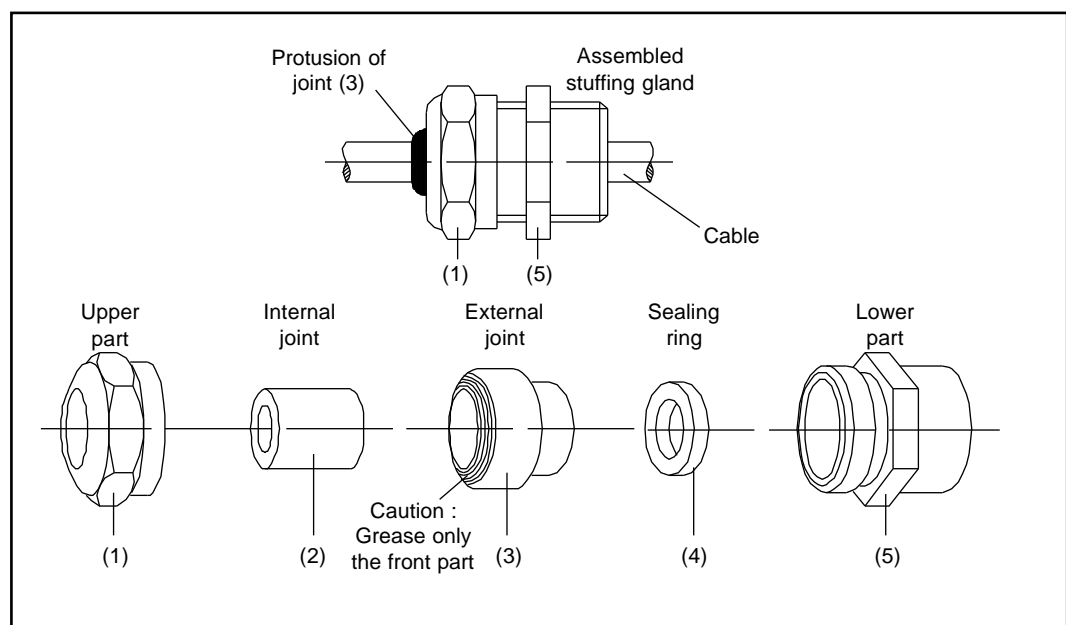

Fig. 4-4 : Stuffing gland (overall view and exploded view).
- Pass the cables into the stuffing glands located on the load monitoring unit housing, proceeding as follows (see Figure 4-4) :
- Unscrew element (1) anti-clockwise. Element (5) should not be removed from the housing.
- Takes out joints (2) and (3) from element (1) (elements (2) and (3) allow the stuffing gland to be adapted to different diameters of cable). Element (2) can be removed from element (3) by simply pushing outwards.
- Pass the cable across elements (1), (2) (if used), (3), (4) and (5).
- Reassemble the elements of the stuffing gland and, before placing element (1), coat joint (3) with silicone grease as shown in Figure 4-4. Tighten element (1) in such a way that joint (2) and/or (3) protrudes, so as to provide the degree of watertightness required.